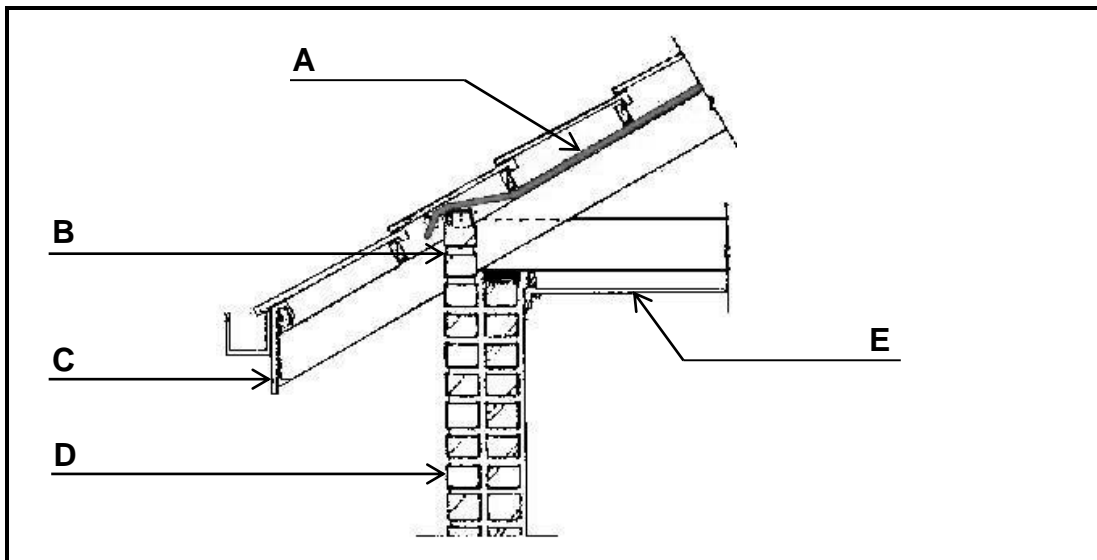

FIGURE 2.6
- 2.6 Answer the following questions with regard to the detail drawing in FIGURE 2.6.
- 2.6.3 Which type of eave construction is illustrated in FIGURE 2.6? (1)